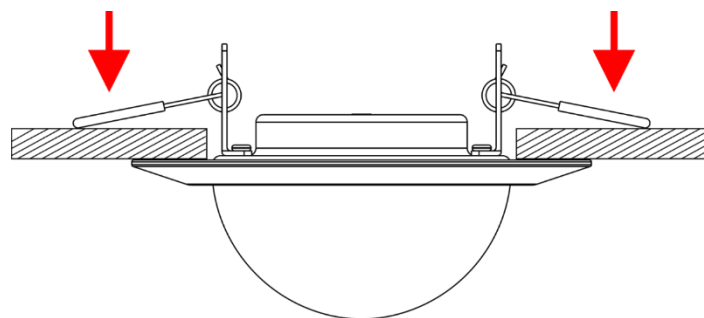

Fig. 06
- 05) Put the Pixel Dot fully in the mounting opening. The **spring-loaded mounting clips (02)** will release and will hold the Pixel Dot in position (Fig. 06).